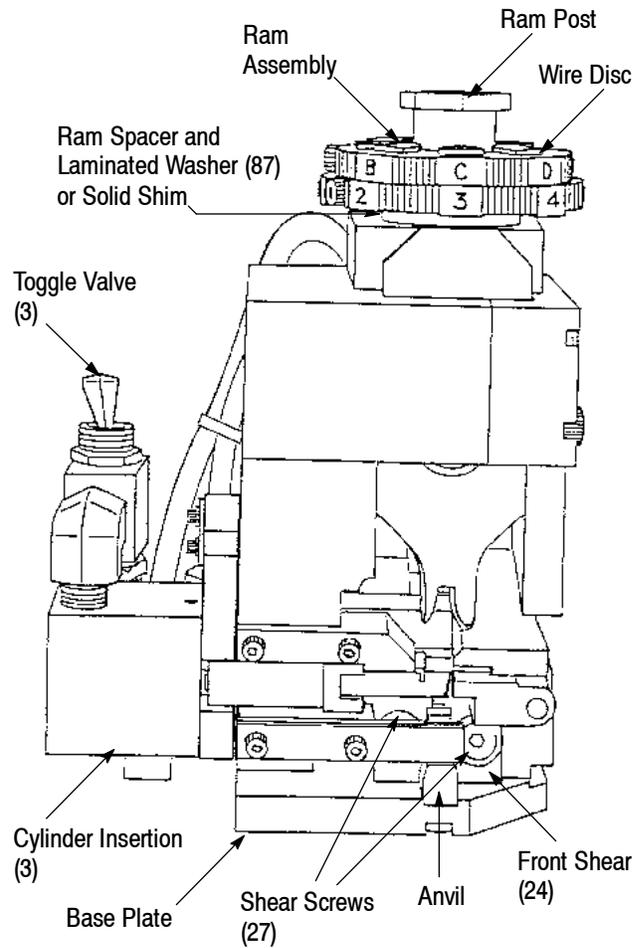

Figure 8
5.2. Anvil Replacement (Figure 8)
2. Remove the two screws securing the slug (86) to the ram.
5.4. Shear Plate Replacement (Figure 8)
5.5. Adjustable Crimp Height Repair (Figures 8 and 9)